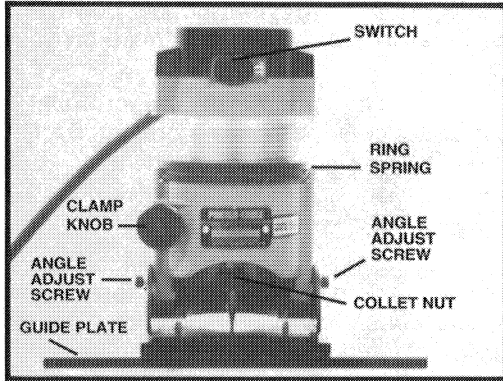

Fig. 1
The Model 411 is equipped with a slide type power switch, see Fig. 1. The words ON and OFF are stamped into the front of the switch.
2. Use the $\frac{5}{32}$ " hex wrench to loosen the two angle adjustment lock screws (see Fig. 1).
- A. Loosen clamp knob (Fig. 1).
2. Loosen the base clamp knob (see Fig. 1), and rotate the depth adjusting ring to align the base so that the corner of the trimmer bit will just cut through the sheet of laminate.